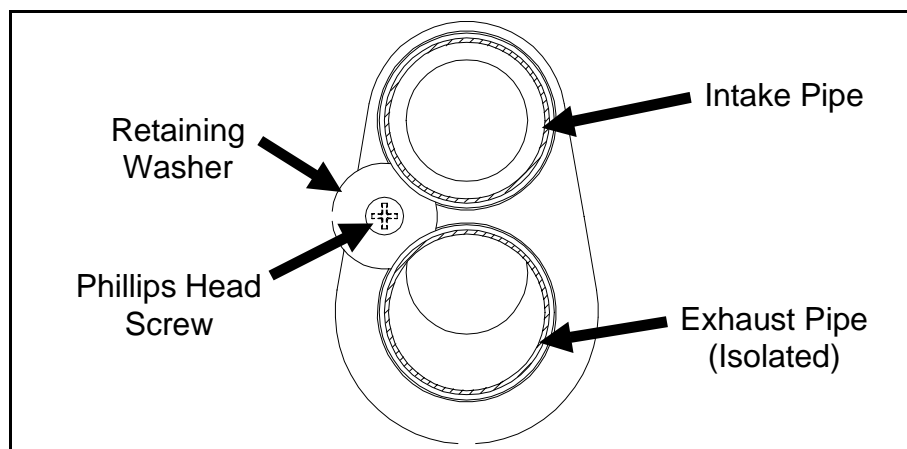

Figure 5 - Vent Terminal Housing
11. Remove the phillips head screw and retaining washer which secure the vent-air exhaust and intake flexible vent piping to the vent terminal housing. See Figure 5.